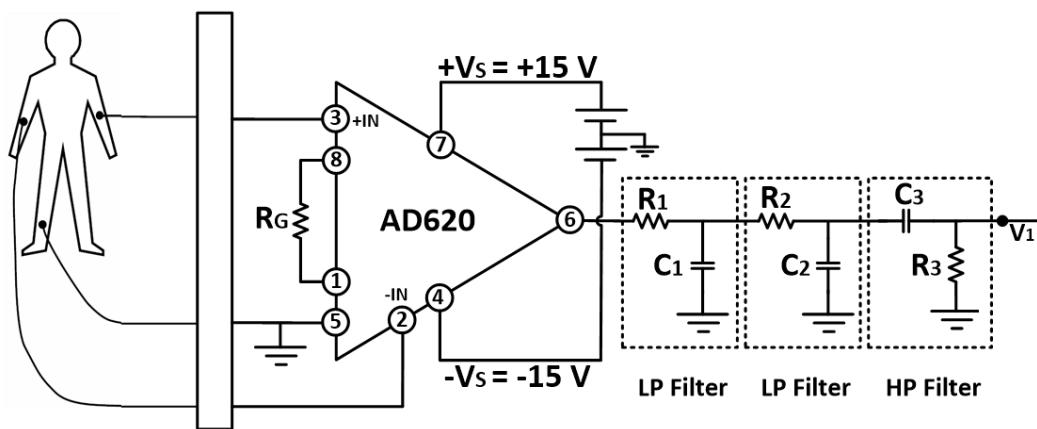

Fig. 1. Schematic of a fully operational 3-wires electrocardiography (ECG) instrument.
Figure 1 shows the entire schematic of a 3-wires ECG circuit using AD620 instrumental amplifier. The circuit consists of ECG probe connectors, an instrumental amplifier which is followed by two low-pass (LP) and one high-pass (HP) filters. Finally, the last stage of the circuit consists of another amplifier. Since people have various voltage differences between their arms, two stage of amplification can make the circuit flexible to adjust the total gain of the ECG circuit and avoid the amplifier to enter the saturation mode. Table I summarized the required components for building the first ECG circuit.